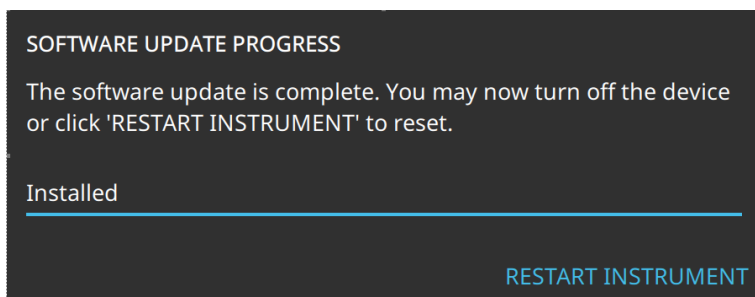

Figure B-4. Software Update Progress Dialog
8. The SOFTWARE UPDATE PROGRESS dialog is displayed as shown in Figure B-4. The installation process may take a few minutes to complete.
7. The SOFTWARE UPDATE PROGRESS dialog is displayed as shown in Figure B-4 on page B-2. The installation process may take a few minutes to complete.